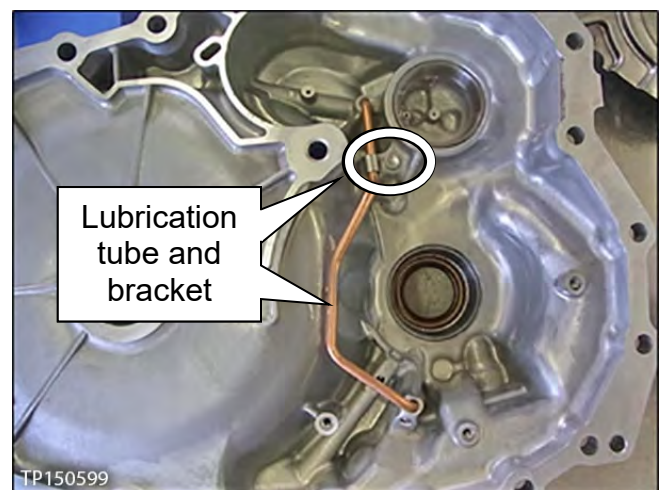

Figure 57
7. Install the lubrication tube and bracket (see Figure 57).